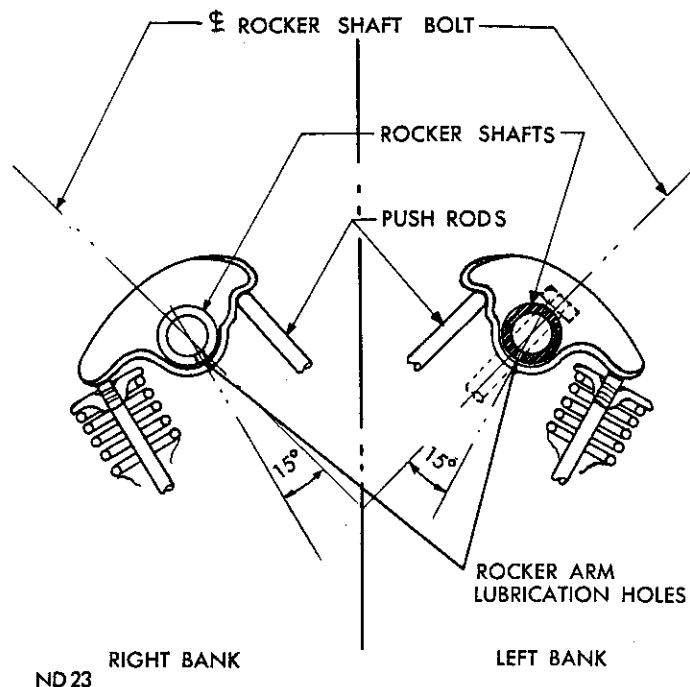

Fig. 5—Rocker Arm Lubrication Holes
(1) Install rocker arms and shaft assembly making sure to install the long stamped steel retainers in the number two and four positions.
(2) Install rocker shafts so that 3/16 inch diameter rocker arm lubrication holes point downward into the rocker arm, so that the 15° angle of these holes point outward towards the valve end of the rocker arms, (Fig. 5). This is necessary to provide proper lubrication to the rocker assemblies.